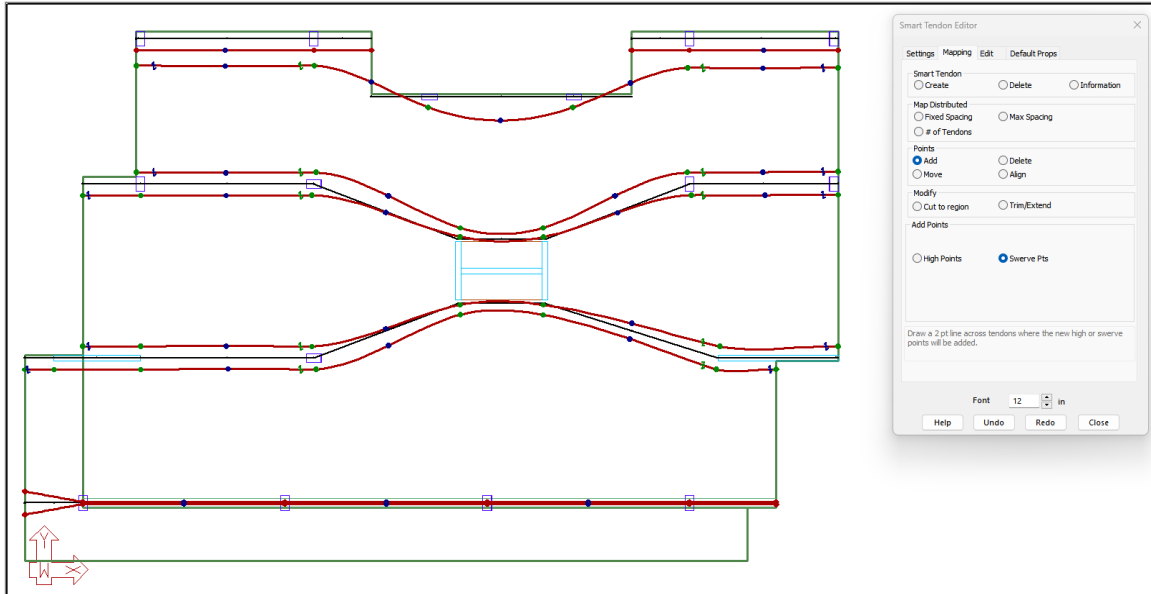

FIGURE 9-64
- Draw your next construction line, like the one we just drew on the left side of the first span from the right. Now your model should look as shown in **FIGURE 9-64**.